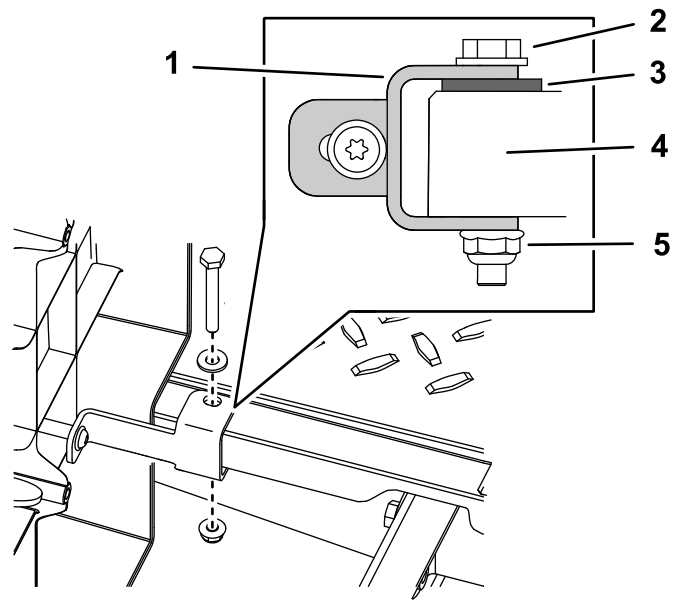

Figure 6
- Use the bolt, washer, and nut that you removed from the floor plate previously and use them to install the kit washer between the clamp and floor plate (Figure 6). Repeat for the left floor-plate clamp.
1. Route the wire harness behind the cab and under the seat, and secure the clip on the wire harness to the side panel (Figure 6).